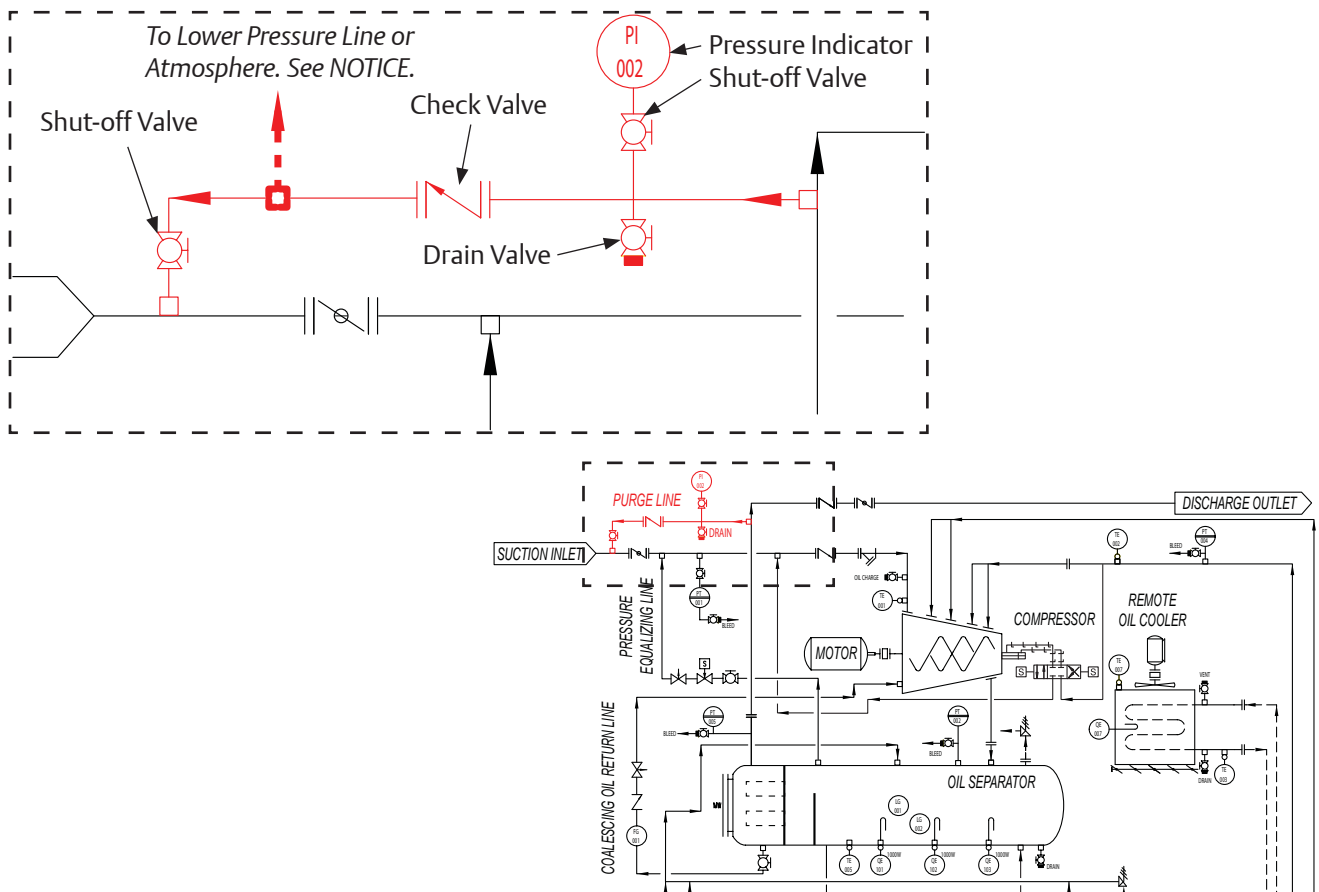

Figure 4-10. Customer Purge Line
1. Refer to Figure 4-10 for recommended purge line design.